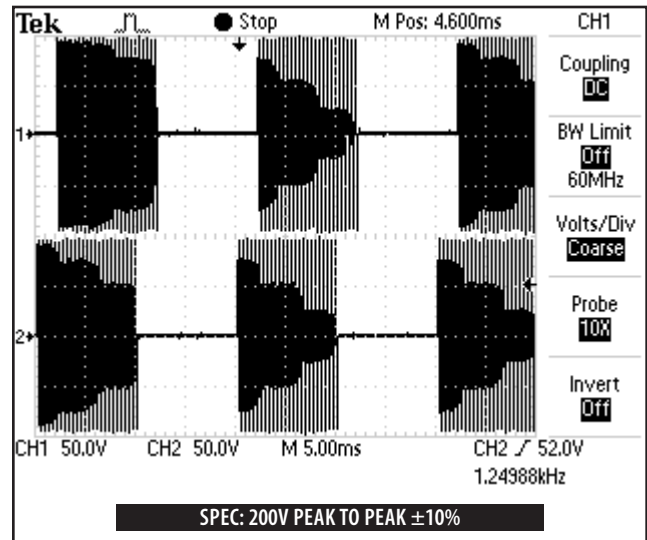

FIGURE 5.7
10. Compare waveform on scope to **Figure 5.7**.
1. Waveform is the same between scope and **Figure 5.7** and amplitude reached 100 volts peak.